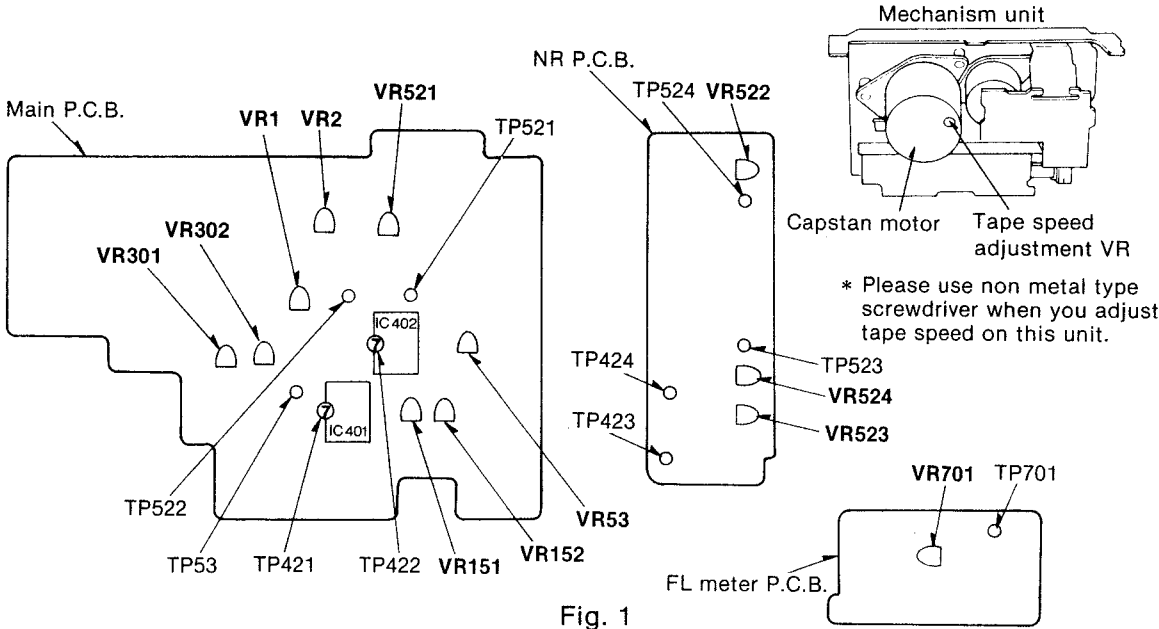

Fig. 1
Procedure 1 → 4 → 5	<ul style="list-style-type: none"> <li>• Pull out the input volume knob (K) (see fig. 1).</li> <li>• Remove 4 screws (L).</li> </ul>
6. If measured value is not within the standard value, adjust it by using the tape speed adjustment VR shown in Fig. 1.